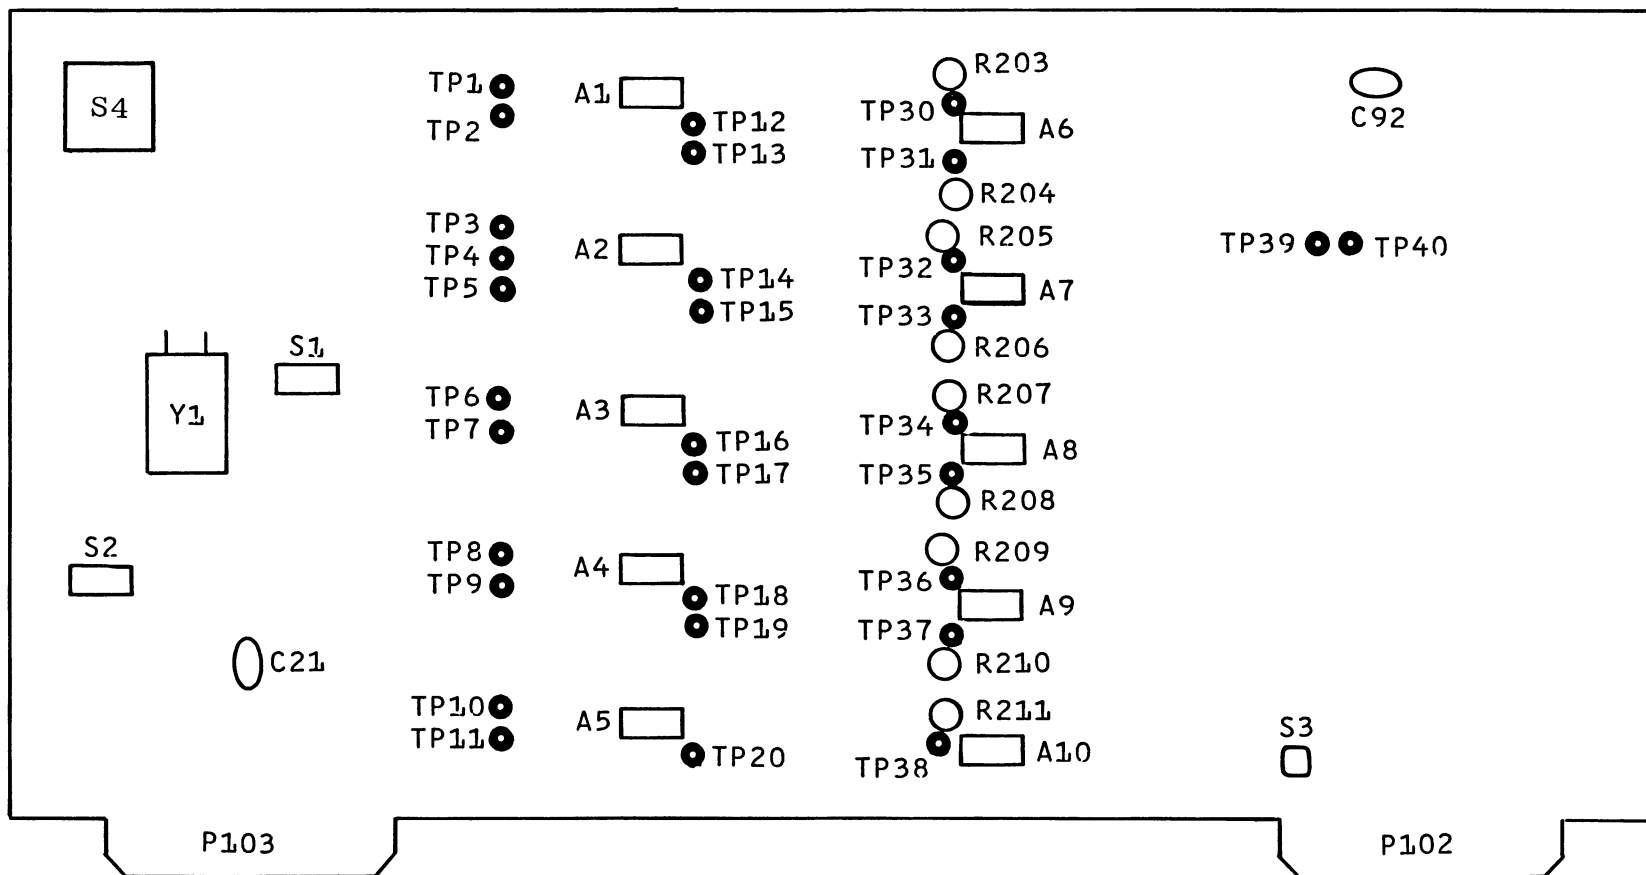

Figure 5-9. Dual-Mode PWB Test Points, Pots, Headers, and Switches
- a. Load known-density master skew tape on transport. Connect counter to TP10 on dual-mode data board (Figure 5-9).
- c. Referring to Figure 5-9, connect oscilloscope to TP30 and ground.